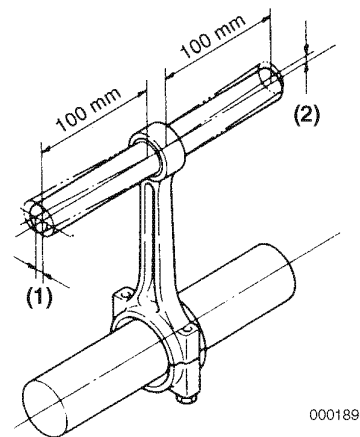

Figure 8-56
5. Check for twist (**Figure 8-56, (1)**) and bend (**Figure 8-56, (2)**). See *Connecting Rod* on page 8-12 for the service limit. Record all measurements.